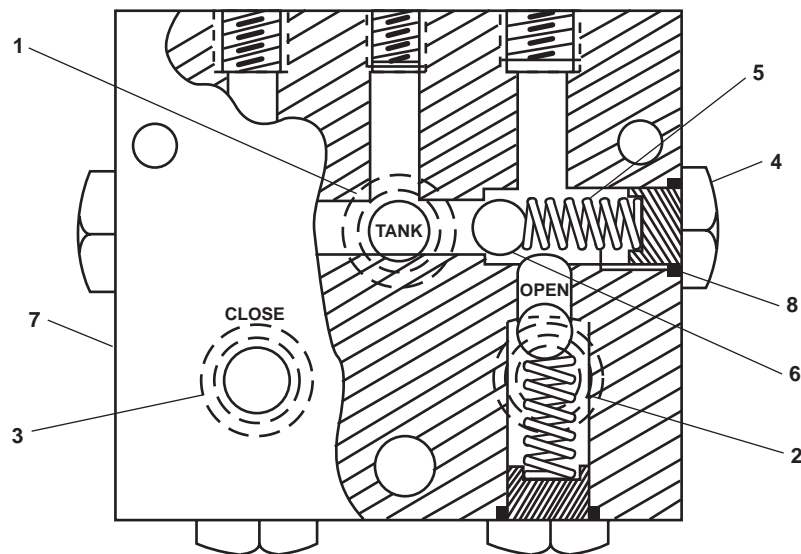

Figure 4. Quad Check Valve
2. Remove and discard the O-rings (figure 4, items 1, 2, and 3).
3. Remove the plug (figure 4, item 4), spring (figure 4, item 5), and ball (figure 4, item 6) from the check valve (figure 4, item 7) and set aside.
4. Remove and discard the O-ring (figure 4, item 8) from the check valve (figure 4, item 7).
1. Seat the ball (figure 4, item 6) and spring (figure 4, item 5) in the check valve (figure 4, item 7).
2. Lubricate a new O-ring (figure 4, item 8) with hydraulic fluid and install it in the check valve (figure 4, item 7).
3. Install the plug (figure 4, item 4) in the check valve (figure 4, item 7).
5. Lubricate the new O-rings (figure 4, item 1, 2, and 3) with hydraulic fluid and install them on the check valve (figure 4, item 7).